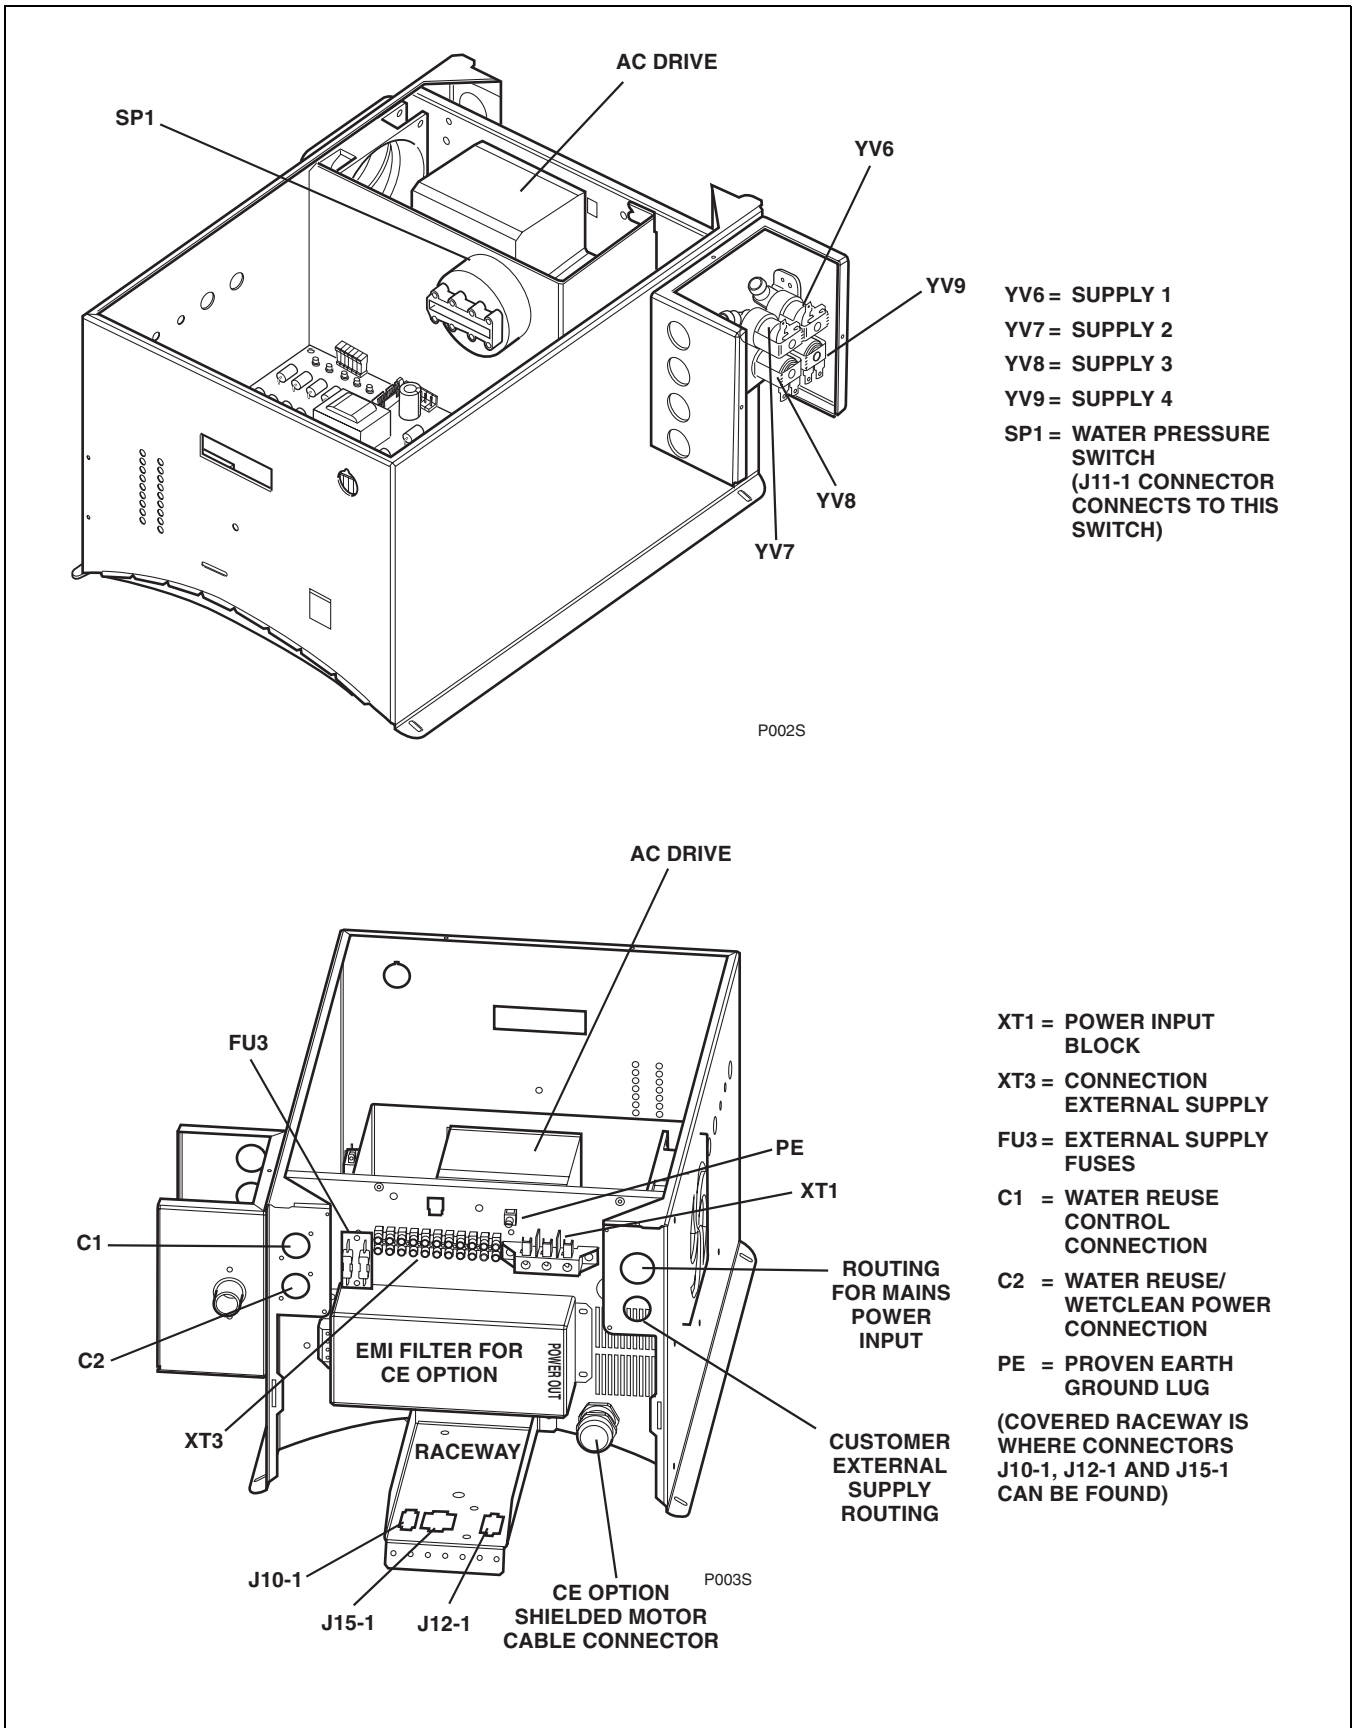

Figure 5
- b. Check the input plug (J-2) on computer board. Refer to *Figure 5*.